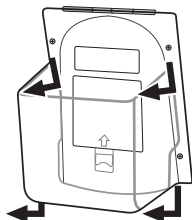
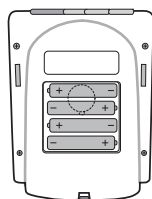

Fig.1
Fig.2
1. Remove a support sliding it down off the electronic unit (Fig. 1). Open the battery compartment cover and insert 4 AA batteries as outlined in the drawing inside the compartment (Fig. 2).